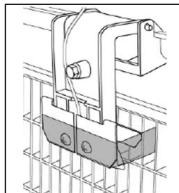
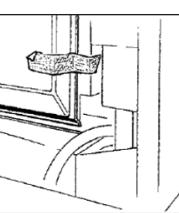

Fig. 7.
Fig. 8.
- e) Unlock the sensor and the baffle by removing the transit packaging and tape, which have been applied to avoid any damage during transportation (Fig.7 & Fig.8).